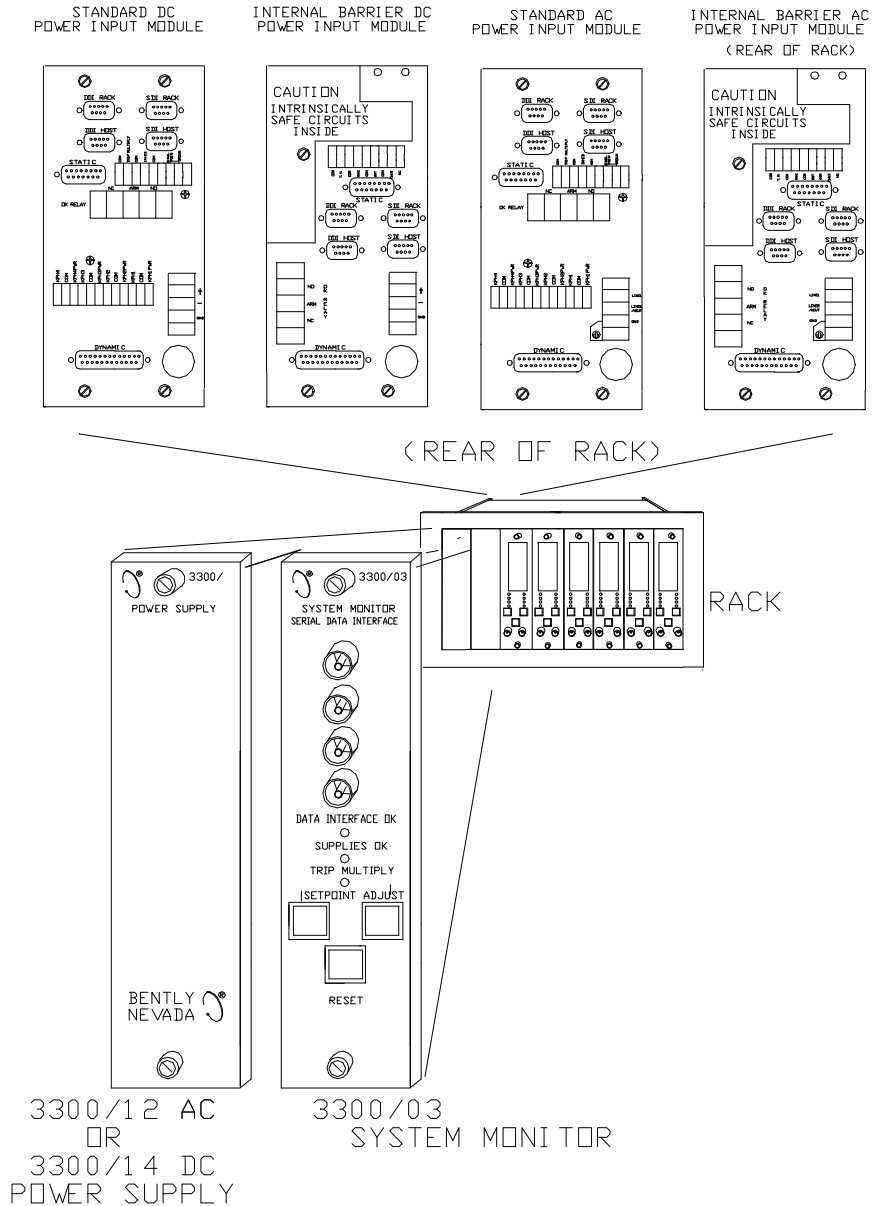

**Figure 2**
- Consists of an original system with a 3300/03-01 System Monitor, a 3300/10 or /11 or /14 Power Supply, an original backplane, and one of the original Power Input Modules shown in **Figure 2**.